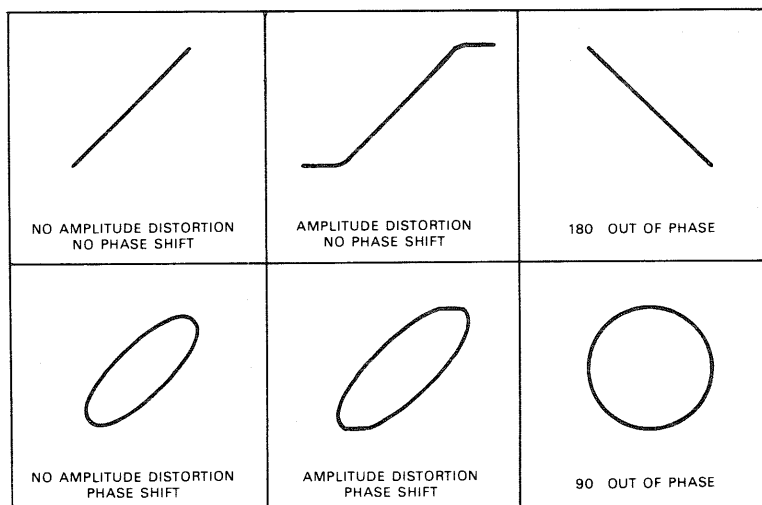
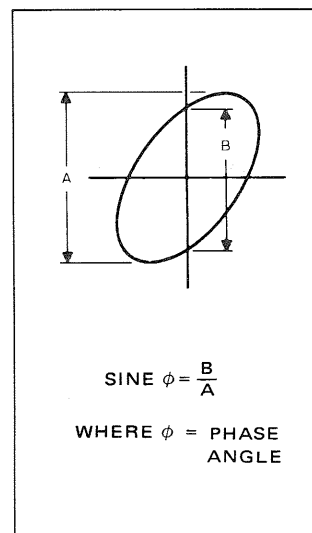

Fig. 25 Typical phase measurement oscilloscope displays
Fig. 26 Phase shift calculation
7. Some typical results are shown in Fig. 25. If the two signals are in phase, the oscilloscope trace is a straight diagonal line. If the vertical and horizontal gain are properly adjusted, this line is at a 45° angle. A 90° phase shift produces a circular oscilloscope pattern. A 90° phase shift produces a circular oscilloscope pattern. Phase shift of less (or more) than 90° produces an elliptical oscilloscope pattern. The amount of phase shift can be calculated from the oscilloscope trace as shown in Fig. 26.